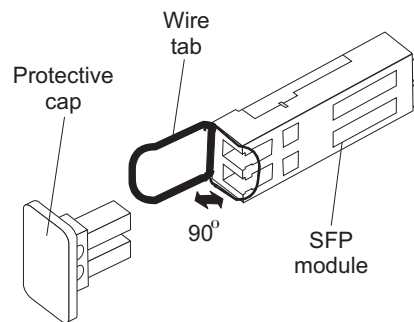

Figure 28. Installing an SFP module into the host port
4. Insert the SFP module into the host port until it clicks into place. See Figure 28.